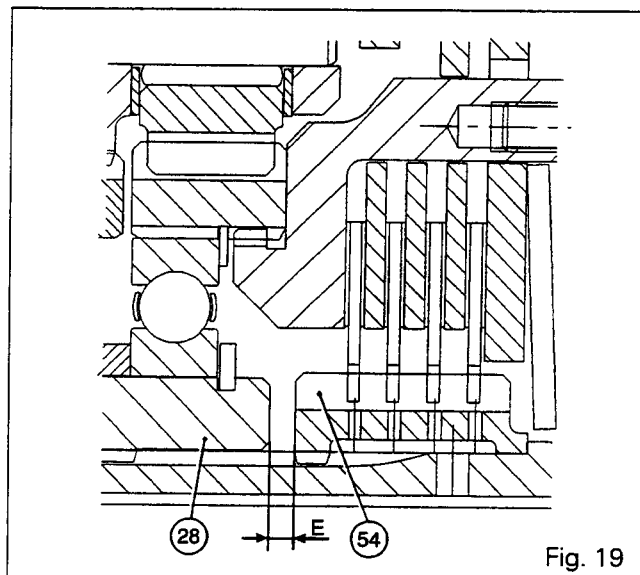

Fig. 19
62. Fit the secondary sun gear (61) and its retaining ring (49) on the ball bearing (57).
64. Determine the clearance **E** between the primary planetary carrier (28) and the hub (54) (Fig. 19) using the formula : $E = D - A$